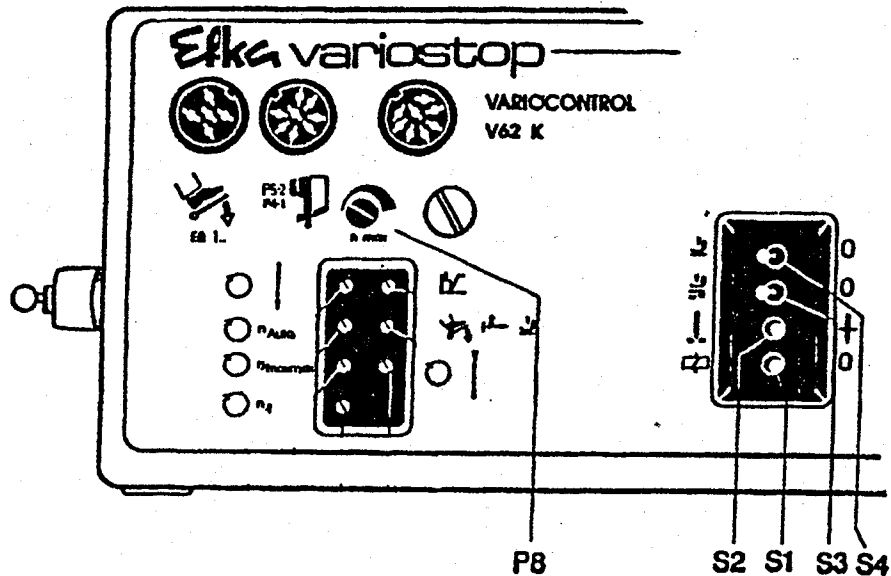

Fig. 3:
- turning potentiometer **P8 n max** (fig. 3) to the right.
- turning potentiometer **P8 n max** (fig. 3) to the left.